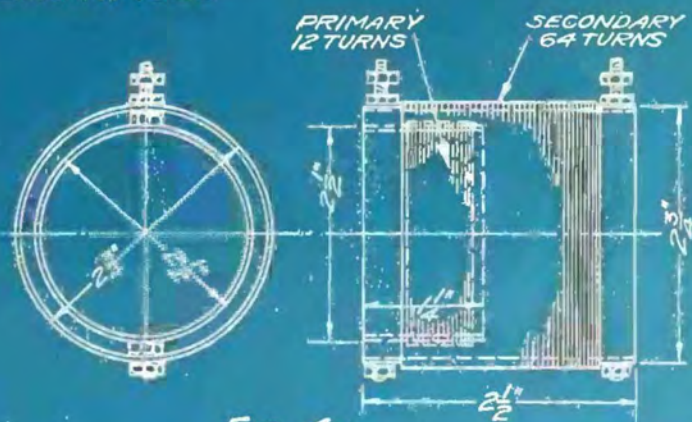

FIG. 4A
frequency transformer or neutrodyne transformer can be used at RT-1, RT-2 or RT-3. The primary winding (Y) consists of about 12 turns of No. 26 D.S.C. wire while the secondary has about 64 turns of the same size wire. However, I recommend that these transformers be purchased ready-made, for home made transformers are seldom reliable. Fig. 4A shows the general dimensions of the transformers in case the home builder desires to "roll his own." Transformer RT-3, if of the untuned type, must be purchased, as this type is altogether out of the amateur builder's class.